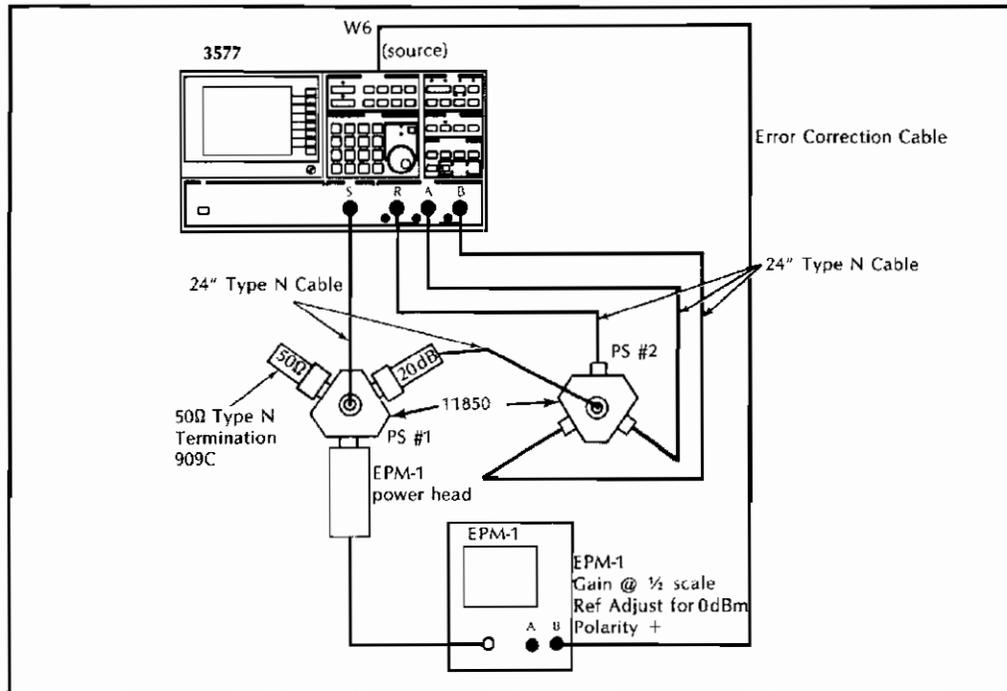
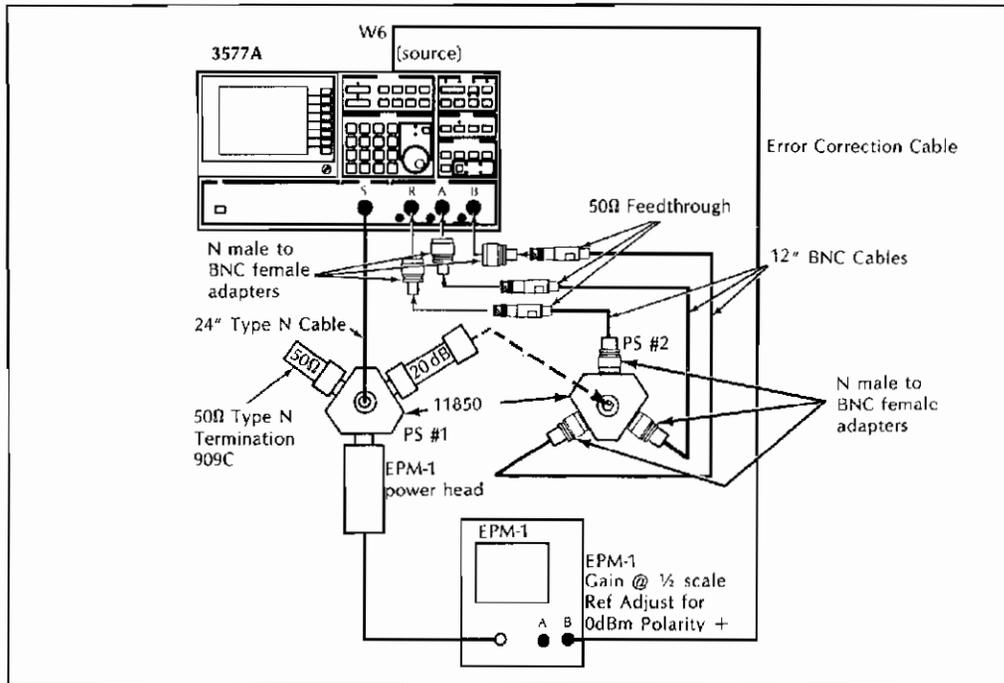

Figure 3-7 Receiver Flatness and Absolute Accuracy Test Set-Up (50 Ω)
Figure 3-8 Receiver Flatness and Absolute Accuracy Test Set-Up (1 MΩ)
- k. Connect the equipment as shown in Figure 3-7 (Figure 3-8 for 1 M Ω). The EPM-1 Error Correction Cable connects to W6 at the top of the 3577A source board, A8, after removing the jumper. The EPM-1 level power meter will swing from -0.2 dBm to $+0.2$ dBm several times and settle to some level between the two points. Adjust the reference control on the front panel of the EPM-1 until the meter reads 0 dBm.